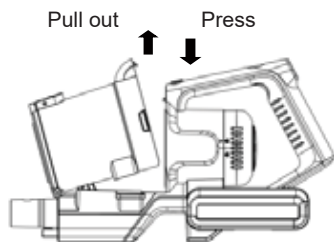

Fig. 13
2. Click the dust container release button, located on the front of the handle just above the dust container and pull dust container out (Fig 13).